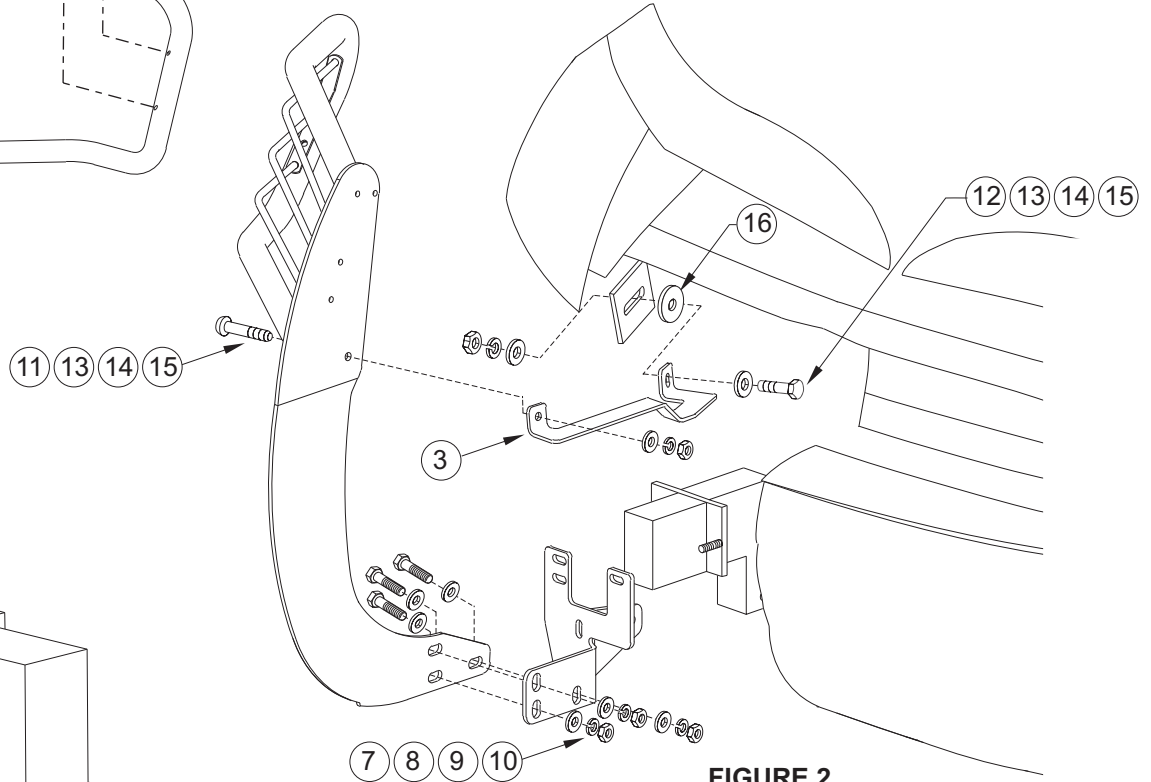

FIGURE 2
- STEP 3. Remove three of the four nuts that hold the bumper support frame to the vehicle frame. **NOTE:** Leave the outer top most nut attached or vehicle damage may occur. **SEE FIGURES 2 AND 3.**
NOTE: Place 3/8" fender washer between bracket and vehicle. Leave loose. Leave hood open. **SEE FIGURE 2.**
- STEP 7. With Sportsman front side down in front of vehicle, fasten rear slot of Sportsman to the rear slot of mount bracket on bottom of frame. Leave loose. Rotate Sportsman up to vehicle and secure to bracket using remaining 1/2" and 3/8" fasteners. Leave loose. **SEE FIGURE 2.**